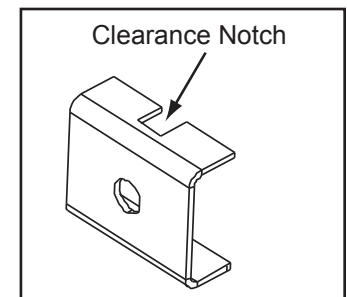

Figure 23.3
- e) Each clip has a clearance notch to allow room for the cast on the boss. Place the clips over the boss so that the notch is facing the outer edge of the surround. **Figure 23.3**